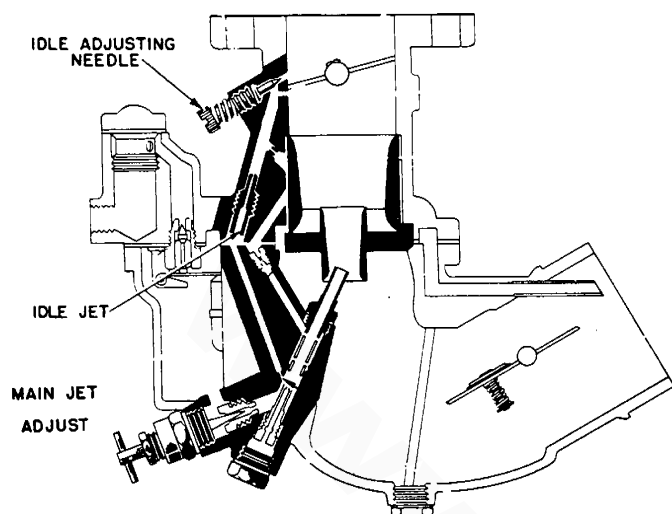

Fig. 65 Carburetor - 63M and 263M Series
(1) Before any of the above adjustments to the carburetor are made, the engine should be operated for a sufficient length of time to reach operating temperature.
(2) With throttle in idling position, adjust the throttle stop screw for desired idling speed. See Fig. 65 and 66.
(3) Turn the idle needle valve in and out until the speed of the engine is steady and as fast as this throttle position will permit.
(4) Readjust the throttle stop screw for desired engine idling speed.
(5) Open the throttle approximately one-third.
(6) Loosen the packing nut on the main jet adjustment.
(7) Turn the main jet adjustment screw in until the engine speed is noticeably reduced.
(8) Turn the main jet adjustment screw out until the engine runs smoothly and as fast as this throttle position will permit.
(9) Hold the adjusting screw in place and tighten the packing nut.
(10) Return the throttle to idle position and readjust idle needle valve slightly for best idling performance.